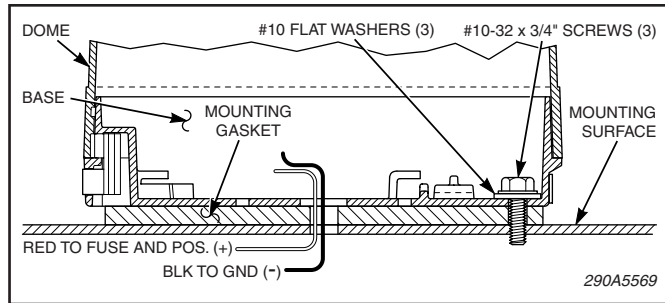

Figure 2.
7. See figure 2. Align the holes in the mounting gasket with the appropriate holes in the base and apply the mounting gasket to the base of the light . Route the light's wires through the gasket's wire routing hole and through the mounting surface.
9. See figure 2. Secure the base to the mounting surface with the three #10 thread-forming screws and flat washers.